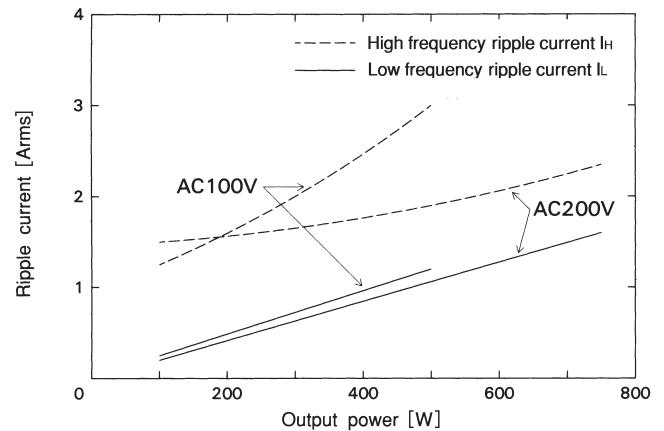

Fig.16.2 Output ripple current
Obtain the ripple current for low frequency and high frequency from Fig.16.2. Use Formula (3) to calculate the total ripple current. Use a capacitor with the ripple current rating above the resulting value. Since the correction factor of allowable ripple current frequency (K) varies depending on the capacitor, check the exact value in the catalog of the capacitor.
- I_L : Low frequency ripple current (Refer to Fig.16.2) [Arms]
- I_H : High frequency ripple current (Refer to Fig.16.2) [Arms]